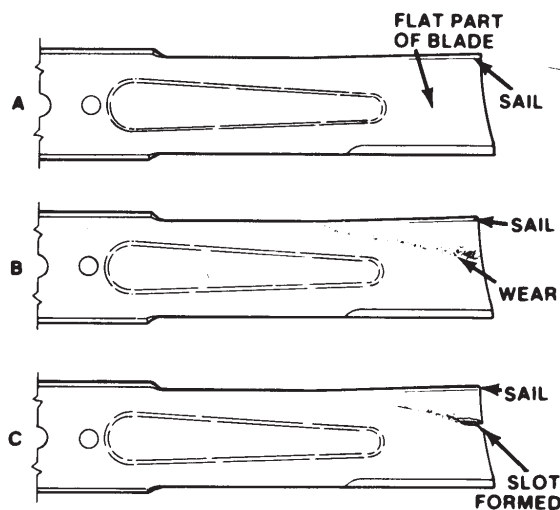

Figure 27
4. Examine cutting ends of the blade carefully, especially where the flat and curved parts of the blade meet (Fig. 27-A). Since sand and abrasive material can wear away the metal that connects the flat and curved parts of the blade, check the blade before using the machine. If wear is noticed (Fig. 27-B), replace the blade: refer to Removing Cutting Blades.